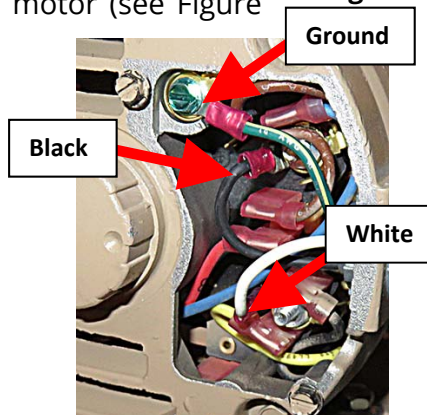

Figure 14
16. Disconnect the ground (green), neutral (white) and hot (black) wires from the motor (see Figure 14).